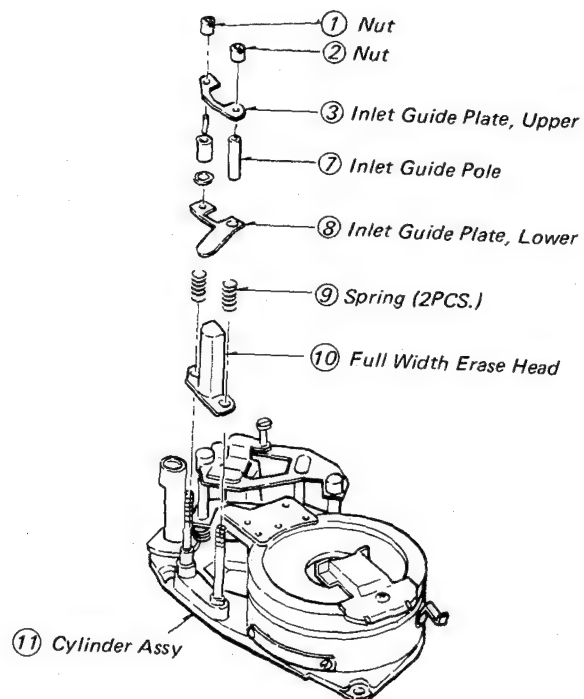

Fig. 5-81 Full Width Erase Head Replacement.
5-2-46 Replacing the Fully Width Erase Head (see Figs. 5-81)
2. Remove the nuts ① and ② holding the full width erase head ⑩.
3. Take out the mounting hardware, including the inlet guide plate (upper) ③ through the spring ⑨, in sequence shown in Fig. 5-81.
4. Lifting the full width erase head ⑩ upward, unsolder the wires.
5. Assemble the full width erase head ⑩ by reversing Steps 1 through 4.